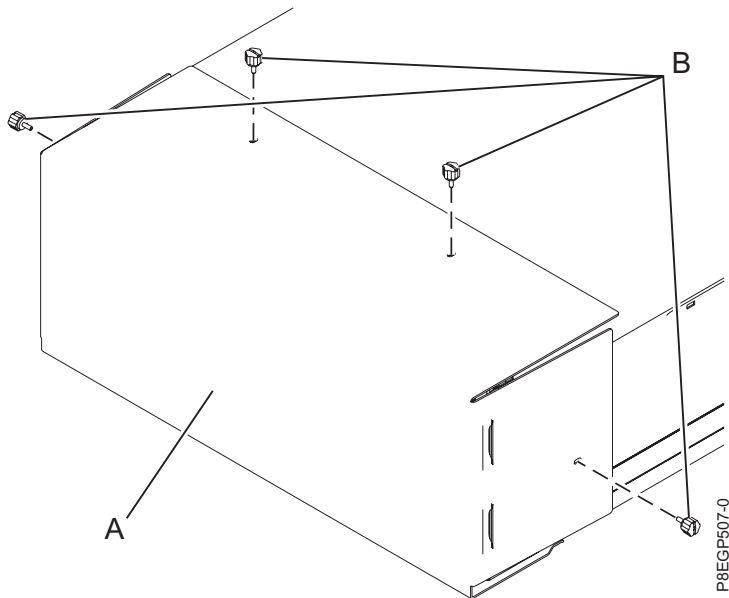

Figure 7. Removing the shipping cover
2. Remove the four thumb screws (B) that are used to secure the shipping cover (A) to the rear of the drawer, as shown in Figure 7 on page 10. Remove the shipping cover.